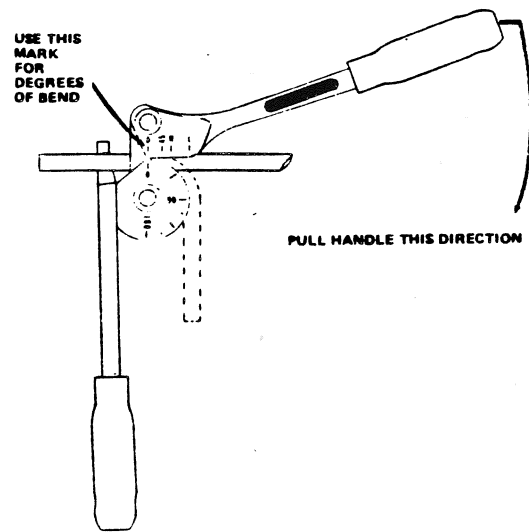

Figure 10.42.
3. Lower the form handle to position shown. (Figure 10.42)
5. Degree of bend is indicated by mark on form handle and shown in Figure 10.42. Bends up to 180 degrees can be made in one sweep of the handle.